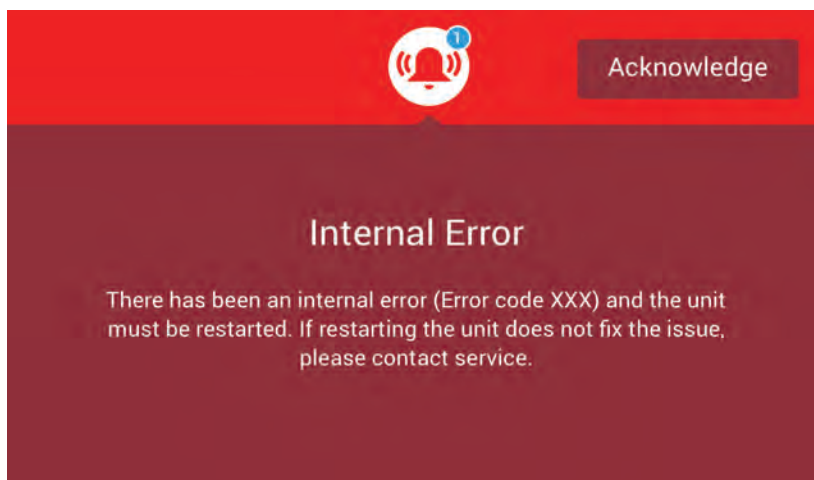

Figure 3-33: Full Screen Alarm Message
1. If you wish to silence the audible alarm (and hide the alarm message) temporarily, tap the Snooze button in the “Info & Health Status” area of the touchscreen (see Figure 3-33 for an example).